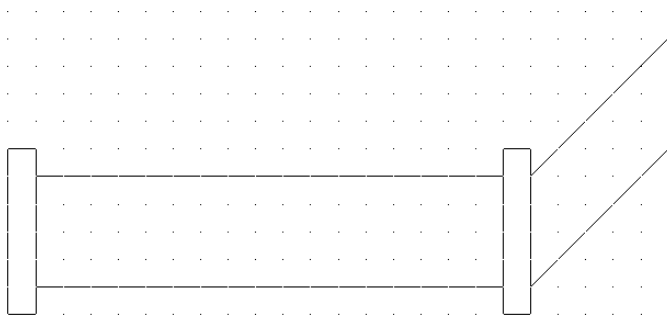

Figure 4-20: The completed pipe section.
22. Save your drawing. Your drawing should look like Figure 4-20.